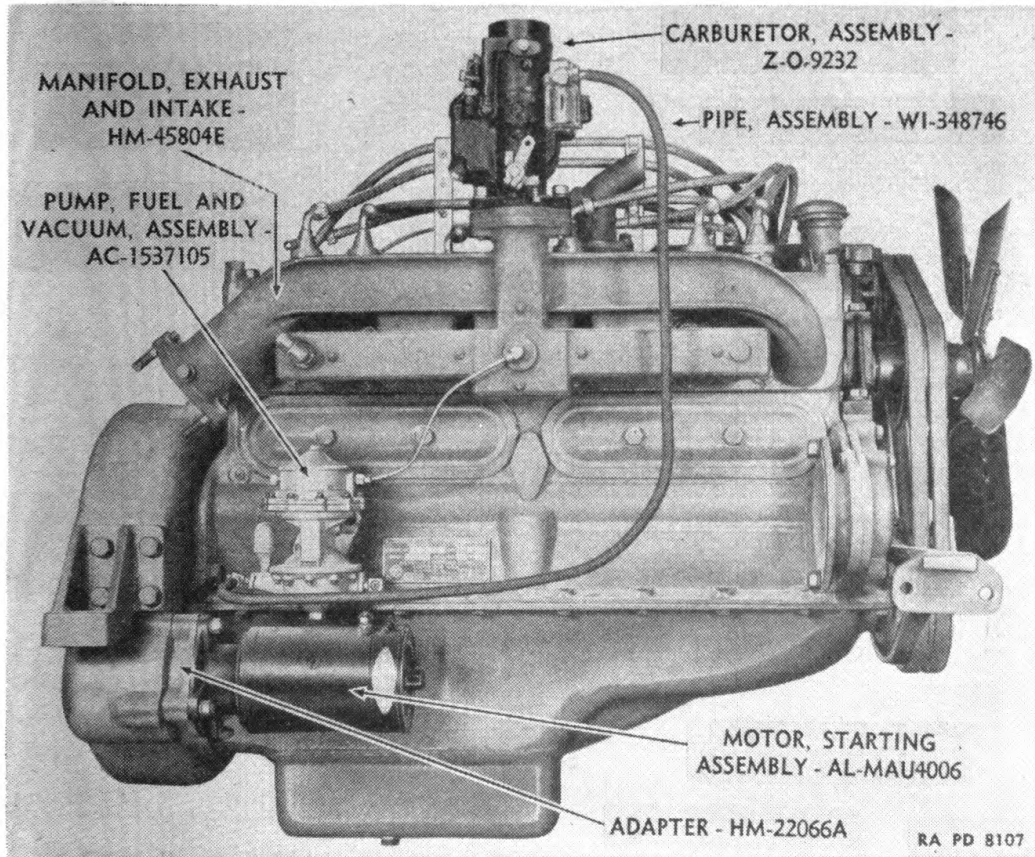
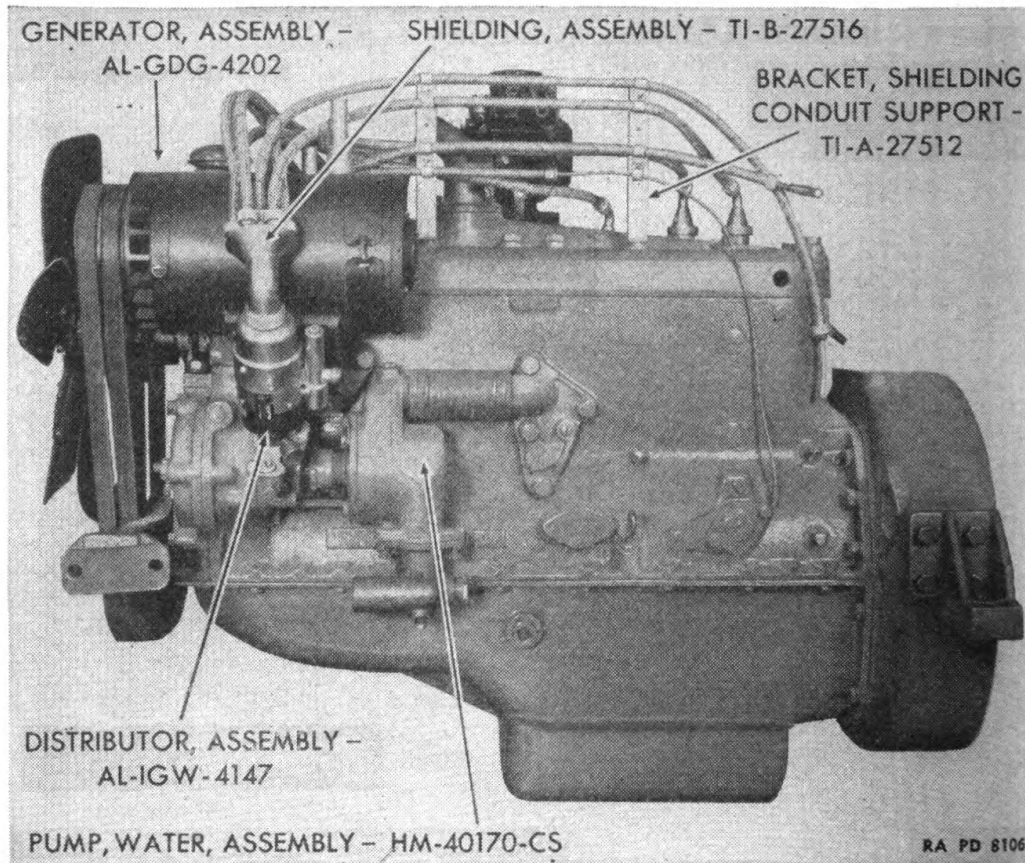

FIGURE 84.—Gasoline engine, dismantled, right side.
FIGURE 85.—Gasoline engine, dismounted, left side.
The cylinders and crankcase are cast in block with a detachable cylinder head. The inlet and exhaust manifold, carburetor, fuel pump, and starting motor are mounted on the right side (fig. 84). The water pump, distributor, generator, oil filler pipe, and oil level gage are mounted on the left side (fig. 85).
(9) The intake and exhaust manifold are cast in one piece (fig. 84). The intake manifold has a hot spot incorporated to provide for a shorter warming-up period.